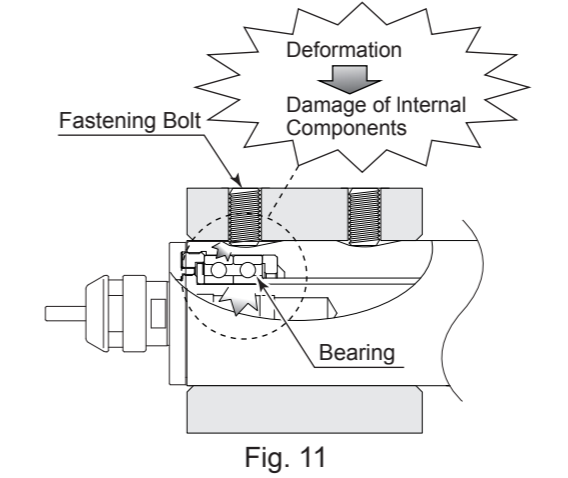

Fig. 11
- Do not allow set screws to come directly in contact with the spindle body as shown in Fig. 10, as this will result in damage to the spindle housing and internal components. When installing, never clamp directly over the bearings, as this will result in bearing damage. (Refer to Fig. 11)